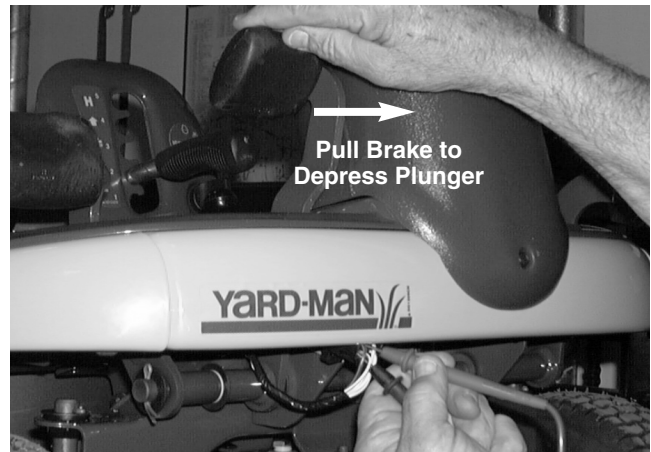

FIGURE 11.
–There will be **CONTINUITY**. See figure 11.
–There will be **NO CONTINUITY**. See figure 11.